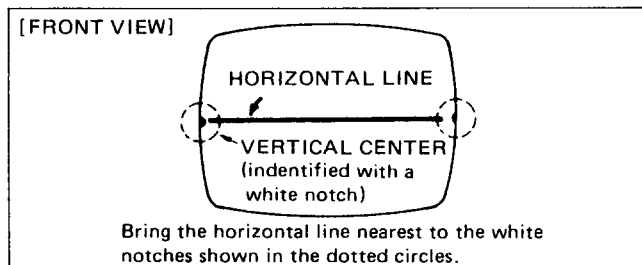

Fig. 2-4
6. Check the vertical center position by displaying a horizontal line. Unless correct, bring it to the center by rotating the two tabs, kept at an angle, together in either direction. (Fig. 2-4, 2-7)